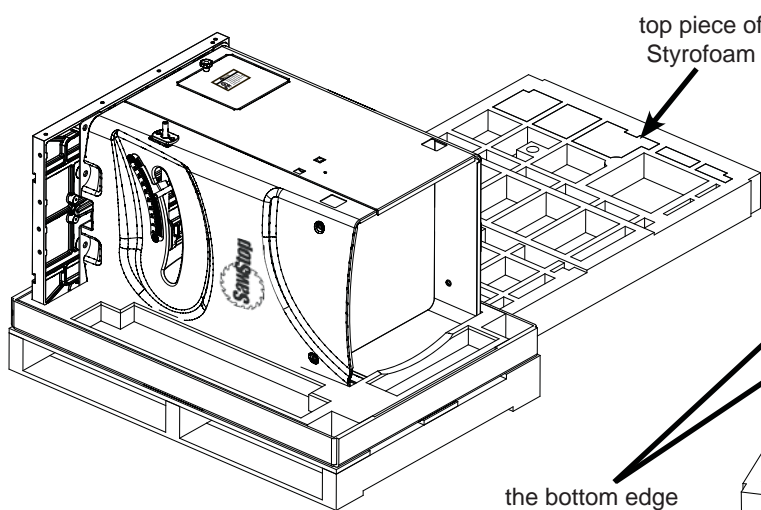

Fig. 2a
2. Take the top piece of Styrofoam and place one of its short sides next to the pallet by the back of the saw, as shown in Fig 2a. Place the Styrofoam so that the top edge of the table and the bottom edge of the saw